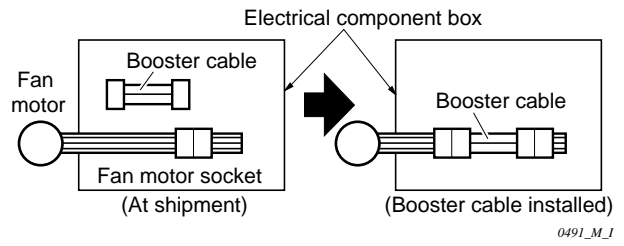

Fig. 3-94
- (1) Remove 4 screws on the electrical component box and remove the cover plate.
- (2) Disconnect the fan motor sockets in the box.
- (3) Take out the booster cable (with sockets at both ends) clamped in the box.
- (4) Securely connect the booster cable sockets between the disconnected fan motor sockets in step 2 as shown in the Fig. 3-94.
- (5) Place the cable neatly in the box and reinstall the cover plate.